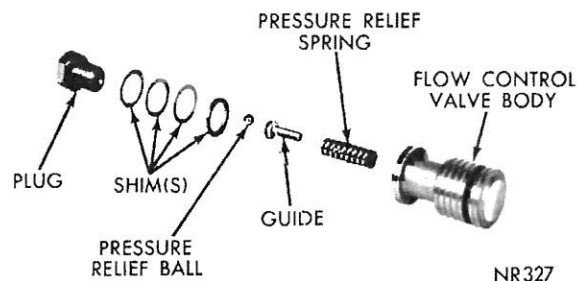

Fig. 35—Flow Control Valve Disassembled View
pressure. (Fig. 35).
(1) Insert spring, guide and pressure relief ball in end of flow control valve (Fig. 35).
(2) Install hex head ball seat using the same number and thickness shims as were removed. Tighten to 50 inch-pounds.
(3) Lubricate valve with power steering fluid and insert flow valve spring and valve in bore. Install new "O" ring on bore plug, lubricate with power steering fluid and carefully install into bore. Install snap ring. **CAUTION: Do not depress the bore plug more than 1/16 inch beyond snap ring groove.**